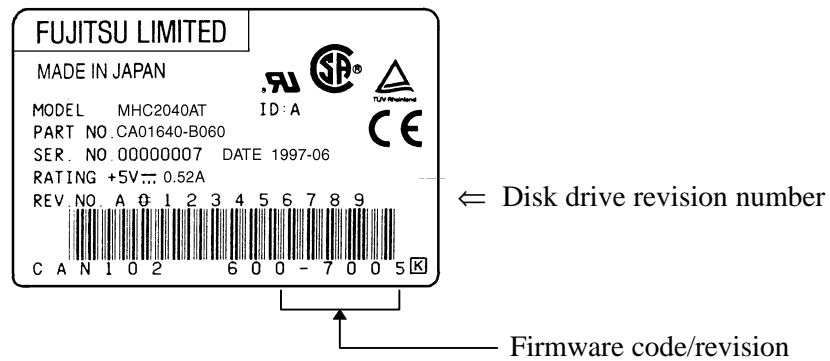

Figure 1.1 Disk drive revision number label
- Figure 1.1 Disk drive revision number label 1-6
The disk drive revision number is a single alphabetic character followed by a single alphanumeric character. It is stuck on the DE and marked on the revision number label. Figure 1.1 shows the disk drive revision number label format.